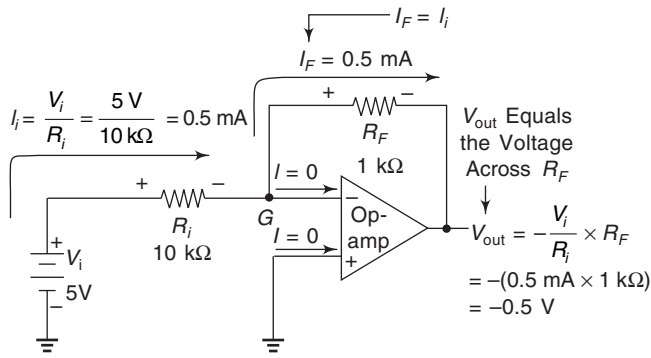

Fig. 17.3 Basic Op-amp Operation.
Most D/A and A/D circuits require the use of an *operational amplifier* (op-amp) for *signal conditioning*. Three characteristics of op-amps make them an almost *ideal amplifier*: (1) very high input impedance, (2) very high voltage gain and (3) very low output impedance. A basic op-amp circuit is shown in Fig. 17.3.
The symbol for the op-amp is the same as that for a comparator but when it is connected as shown in Fig. 17.3, it provides a much different function. The basic theory involved in the operation of the op-amp circuit in Fig. 17.3 is as follows: